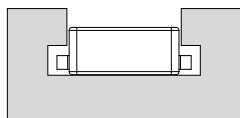

Fig 1.1 - Miter Stop in miter slot
- Slide the Miter Stop into the miter slot with the tabs along the bottom edge fitted into the "T" section of the slot [Fig 1.1, Fig 1a].
- 2.5** Slide the Miter Stop into the miter slot [Fig 1.1] with the block or jig above the table surface.